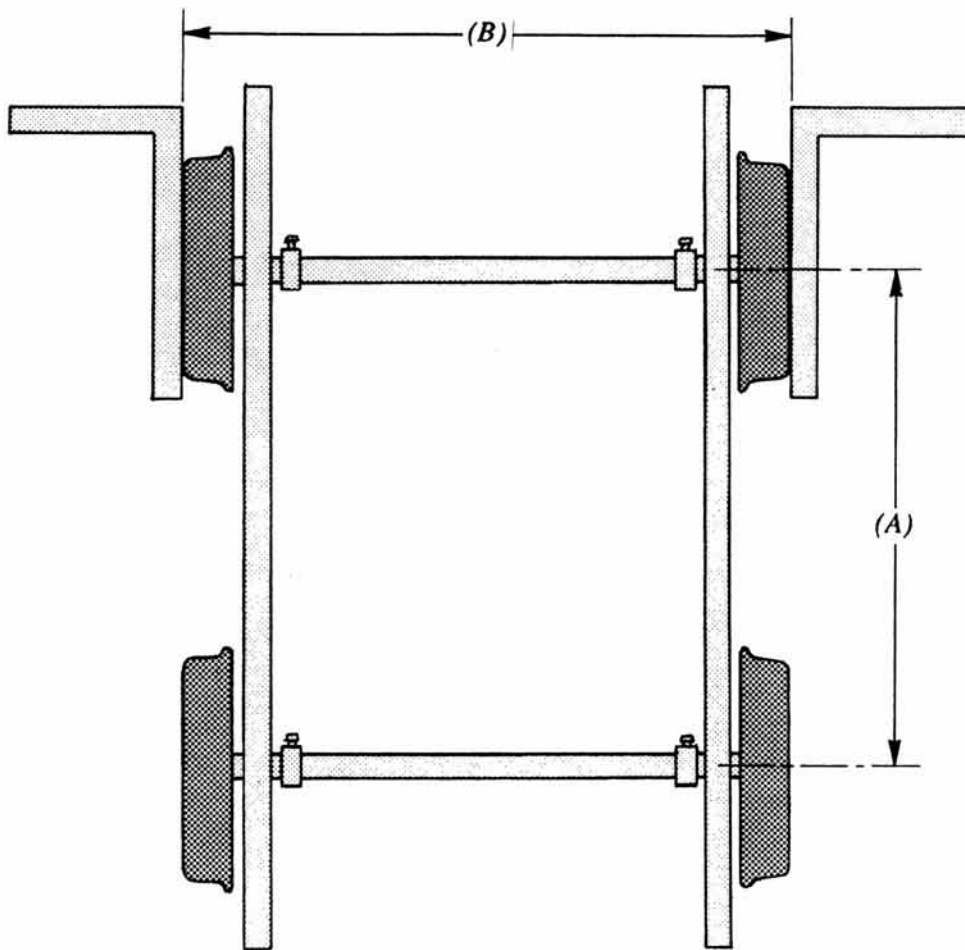

Figure 1
The first step is to place the car on blocks so the wheels will be free to rotate. As you rotate each wheel, watch for any signs of a bent axle or wheel. A minor flaw is tolerable, but this will make further alignment steps more difficult. During this step, it would be advisable to mark the exact center of each axle, and to carefully measure the wheelbase dimensions on each side of the car, as shown in figure 1 (A). If the dimensions differ by more than 1/16th of an inch, the cause must be found and corrected before going on to the next step.
The second alignment step is to measure across the wheel outer faces at each end of the car, as shown in figure 1 (B). Hold a straightedge across each wheel face and measure the distance between the straightedges. The Fairmont instruction manual says the distance should be 62-13/16 inches for cars with 14-inch wheels, or 62-15/16 inches for cars with 16-inch wheels. One can assume that the tolerances are similar for other makes of motor cars. Keep in mind that minor deviations from these tolerances are allowable, but major ones should be corrected.